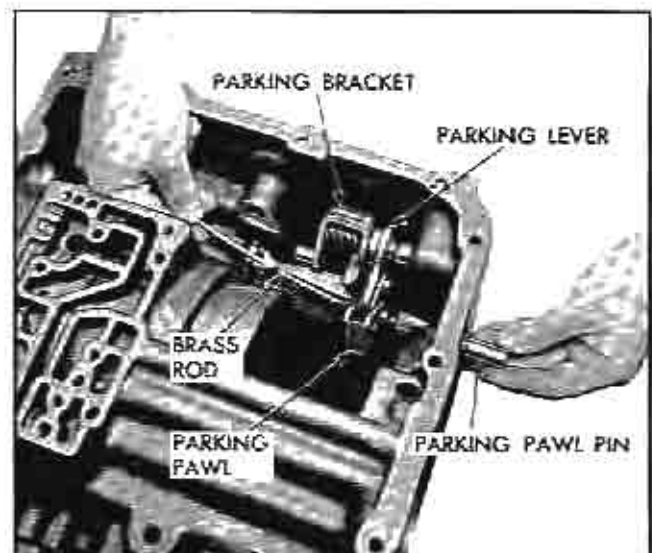

Fig. 67 Removing Parking Pawl
case by pushing on inside end of shaft with $\frac{1}{8}$ " brass rod (Fig. 67).
1. Remove detent spring attaching bolt and detent spring assembly (Fig. 67).